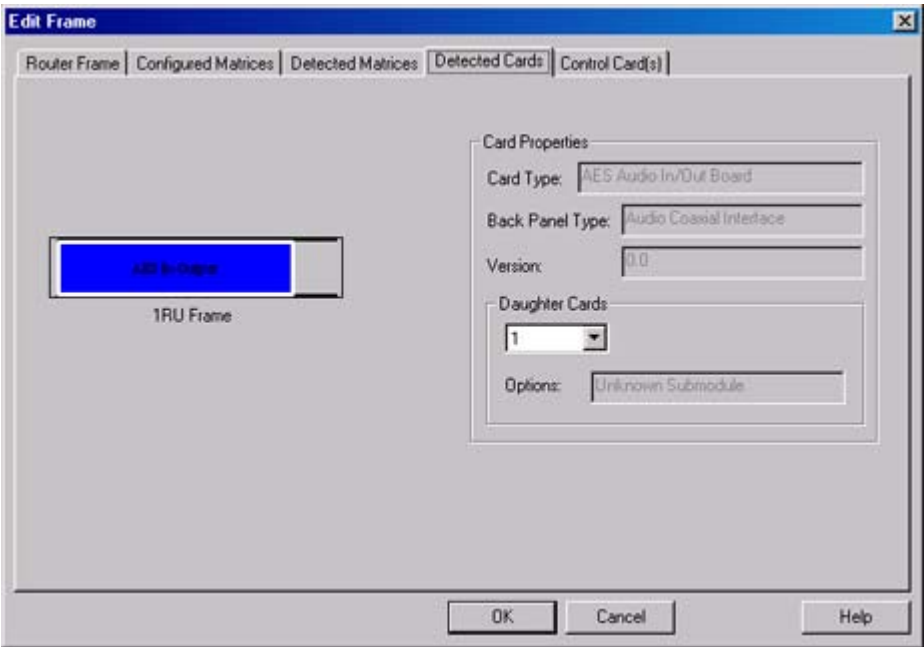

Figure 4. Detected Cards Tab
3. Select the Detected Cards tab. Panacea module information such as card type, back panel type, and firmware version will be displayed (see Figure 4 on page 8 of this Initial Startup Guide).